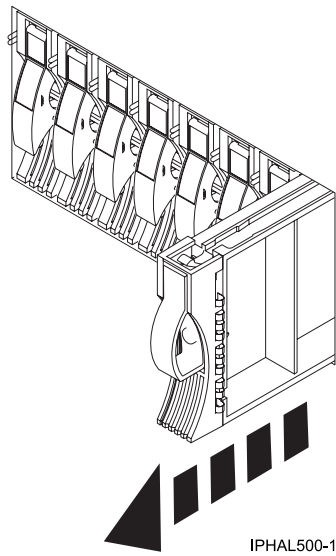

Figure 7. Removing a disk-drive filler from model
- a. Pull the disk-drive filler from the slot, as shown in Figure 7 on page 19.